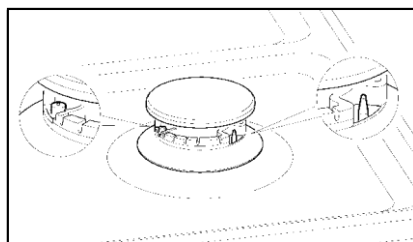

Fig. 22
- **Burner ignition equipped with safety device (thermocouple) (Fig. 22):** Turn the knob anticlockwise that corresponds to the burner selected, setting it to the MAXIMUM position at the etched star (large flame Fig. 23A-23B-23C), press the knob and activate one of the above-mentioned ignition devices. Once ignited, keep pressing the knob for about 10 seconds to allow the flame to heat the thermocouple. If the burner goes out after releasing the knob, repeat the entire operation.